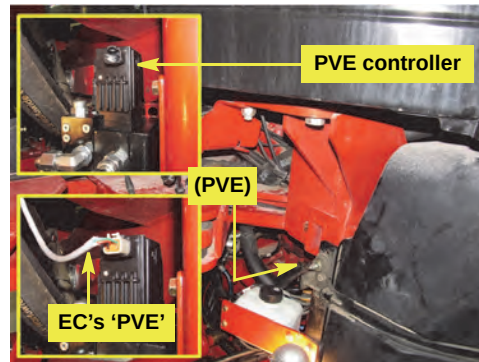

Figure 3f: Steering controller to PVE controller
- f. Locate the machine's PVE controller at the PVE block under the cab to the right of the articulation joint (Figure 3f and top inset). Connect **EC's** branch cable labeled 'PVE' to the machine's PVE controller (Figure 3f, bottom inset).